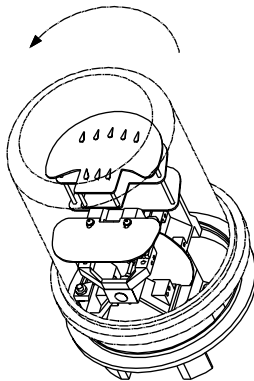

Figure 1. Removing Cover
| Figure 1. Removing Cover | 3 |
1. Unscrew the cover on the meter in a counter-clockwise direction. See Figure 1.